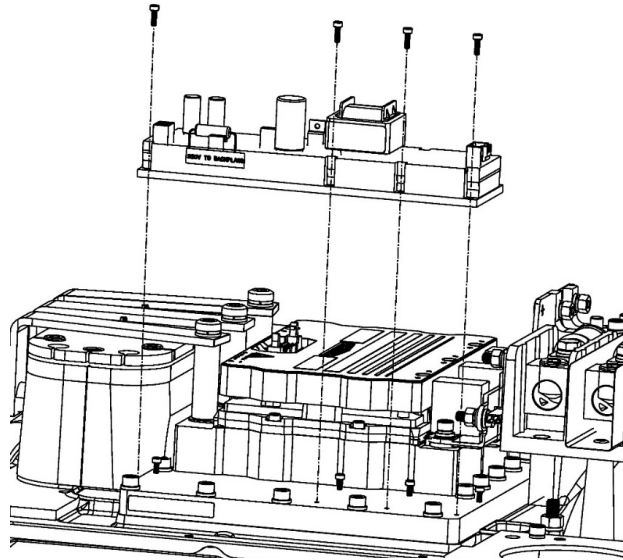

Figure 4 – Potted DC-DC Converter Removal
2. Loosen the fasteners that are located next to the Inverter. Refer to Figure 4 (Potted DC-DC Converter Removal) for this and the next two (2) steps.